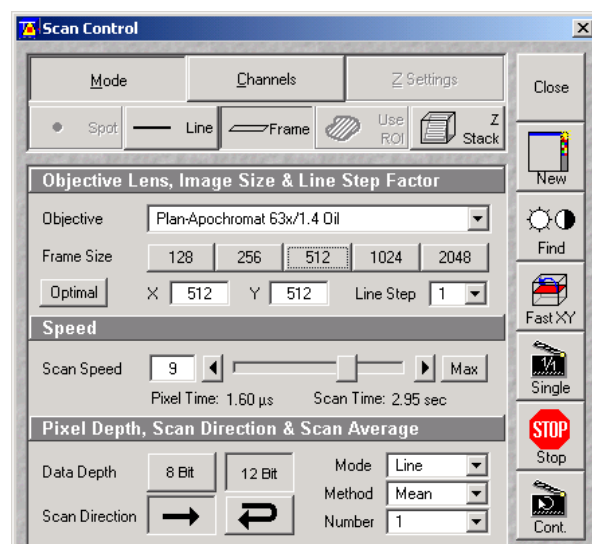

Fig. 16 Scan Control window, Mode settings
The **Scan Control** window appears (Fig. 16).
- Use the slider in the **Speed** panel (Fig. 16) to adjust the scan speed.
- Select the dynamic range 8 or 12 Bit (per pixel) in the **Pixel Depth, Scan Direction & Scan Average** panel (Fig. 16).